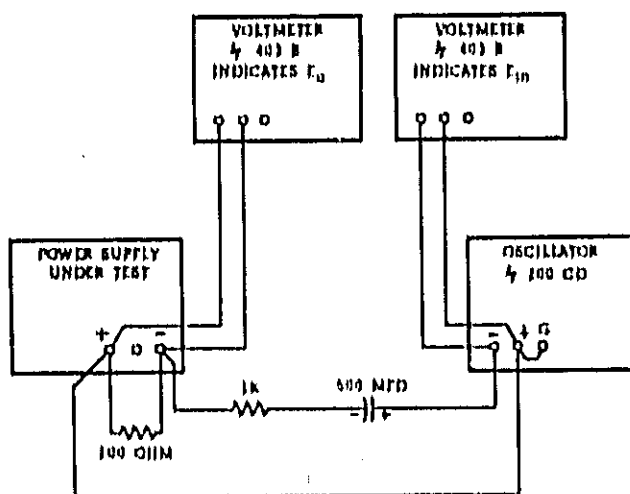

Figure 5-9. Output Impedance, Test Setup
- Connect test setup as shown in Figure 5-9.